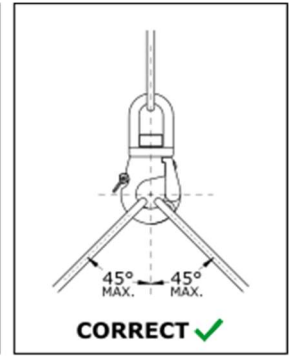

Figure 1b
- No more than two (2) slings shall be placed on the hook saddle. The angle from vertical to the leg nearest the hook tip shall not be greater than 45 degrees and the included angle between the legs shall not exceed 90 degrees. (Figure 1b)